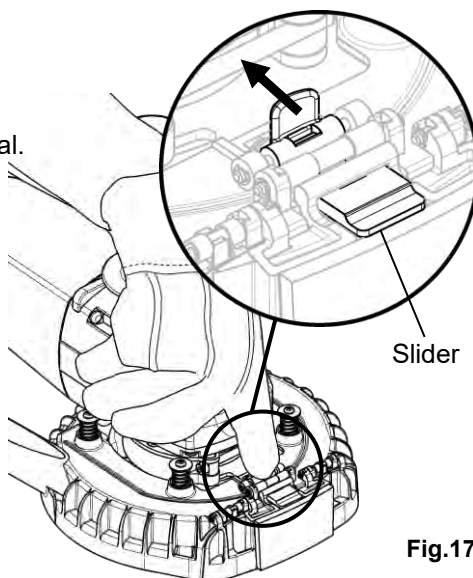

Fig.17
3. Open the Front Lid by pulling the Slider. (Fig.17)